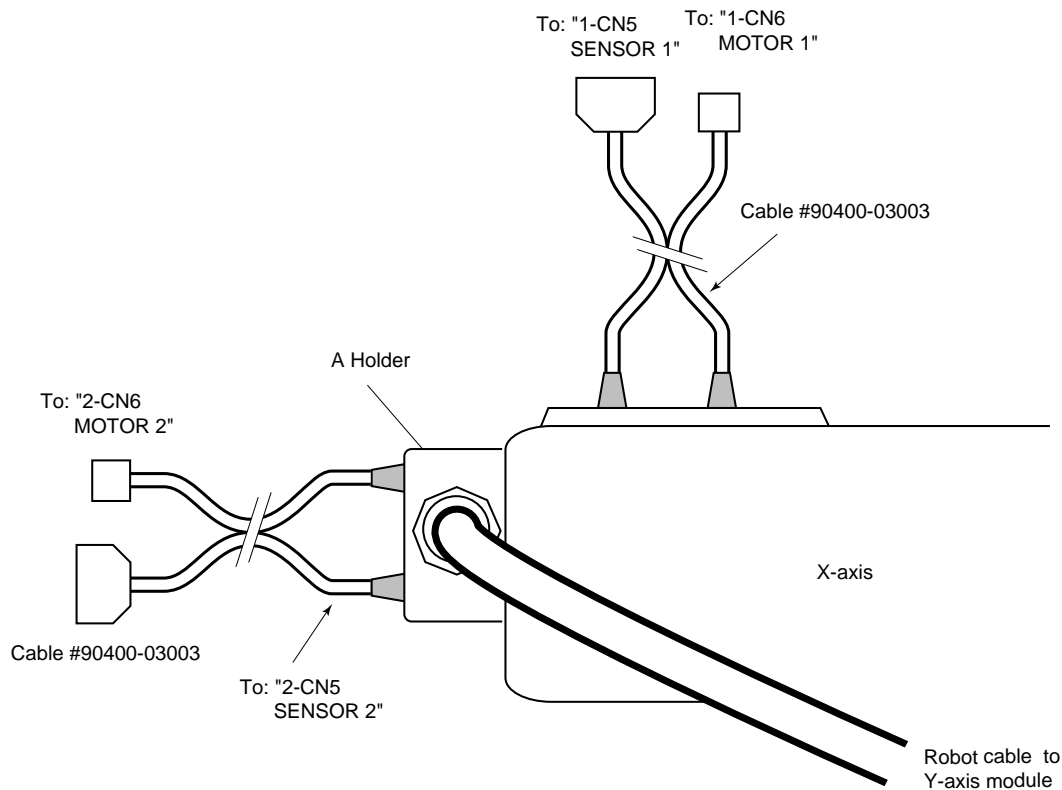

Figure 4-31. Connecting to an EXA or EXC Controller
- a. Connect the two barrel ends of the cable to the X-axis module as shown in Figure 4-31. These connectors have different pin sizes and cannot be installed incorrectly. The other ends connect to the controller connections marked “1-CN6 MOTOR 1” and “1-CN5 SENSOR 1”.
- b. Attach the A holder end of the robot cable to the motor end face of the X-axis module as shown in Figure 4-31 (refer to Section 4.3 for holder mounting).
- d. Connect the two barrel ends of the controller cable to the Z-axis robot cable holder on the X-axis module as shown in Figure 4-31. These connectors have different pin sizes and cannot be installed incorrectly. The other ends connect to the controller connections marked “2-CN6 MOTOR 2” and “2-CN5 SENSOR 2”.